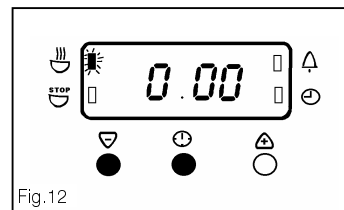

Fig.12
- i) To cancel an automatic programme press the Selector Control button until the 'Cook Time' indicator neon flashes. Press the decrease control until the display reads 0.00 as Fig. 12.